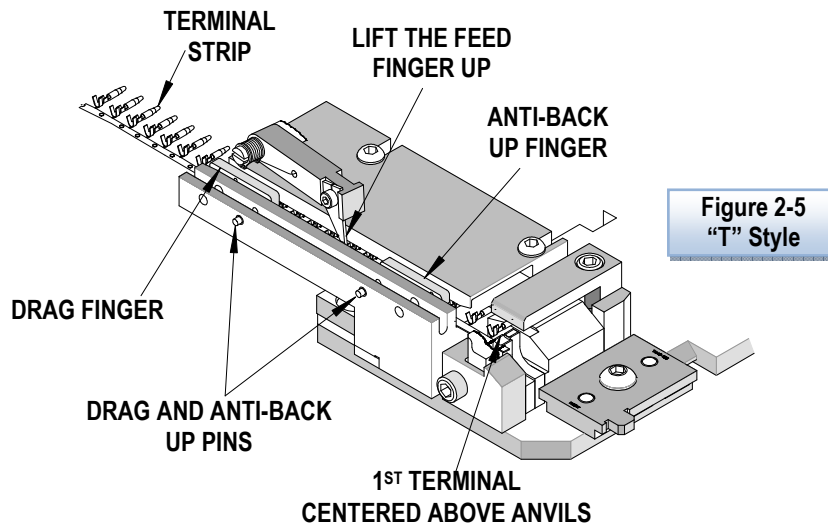

Figure 2-5
1. If using a "T" style Terminator, push both the drag and anti-backup pins located on the front of the terminator die. This will allow the terminals to slide freely through the terminal track. See Figure 2-5.